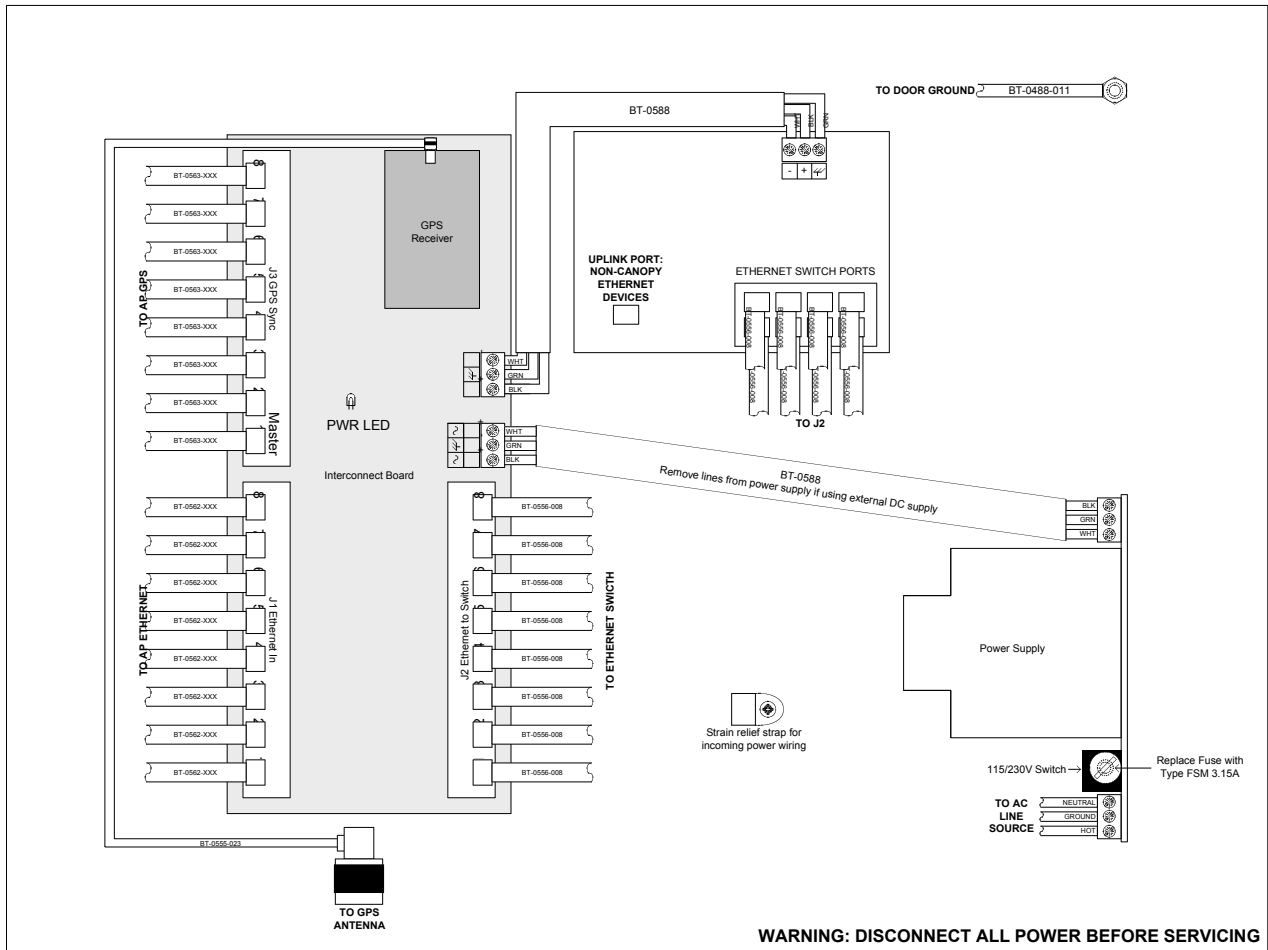

Figure 124: Layout of logical connections in CMM2
The logical connections in the CMM2 are displayed in Figure 124.
15. Connect AC or DC power to the CMM2, consistent with Figure 124 on Page 338.